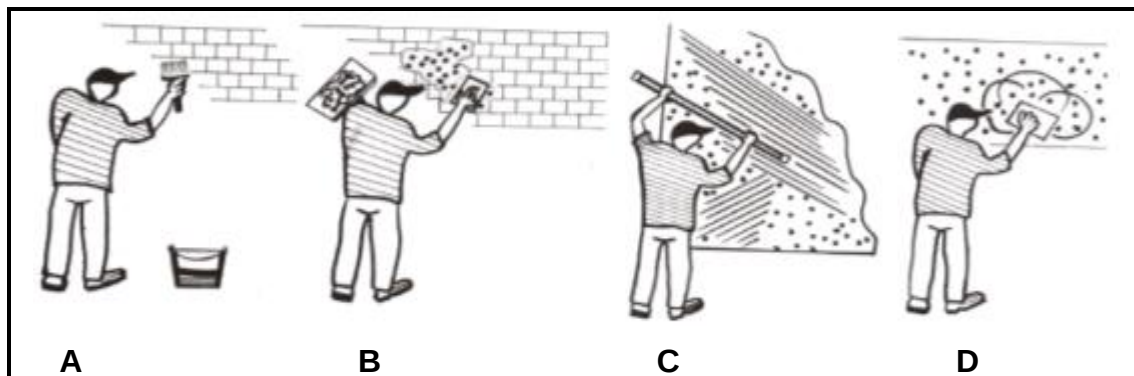

FIGURE 5.1
- 5.1 FIGURE 5.1 below shows a worker plastering a wall. Study the drawing and answer the questions that follow.